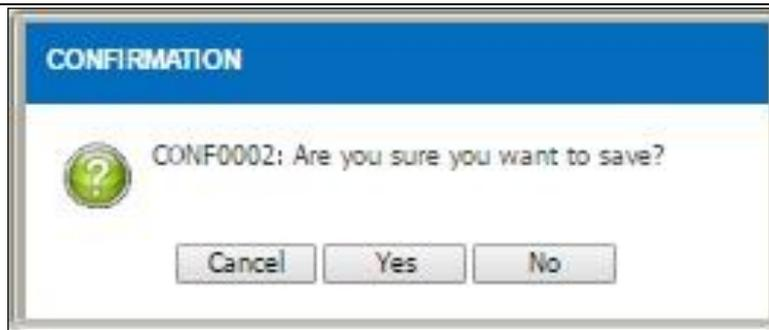

Figure 4.1.6-7 Alert Message
- Alert message will be displayed after the transaction is saved as per Figure 4.1.6-7
- Click on the button to confirm the saved transaction and the item information will be displayed as Figure 4.1.6-8